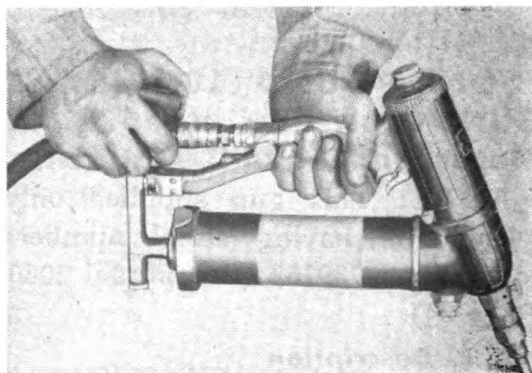

Figure 76
b. Attach air service hose on reel to gun (See Figure 76).